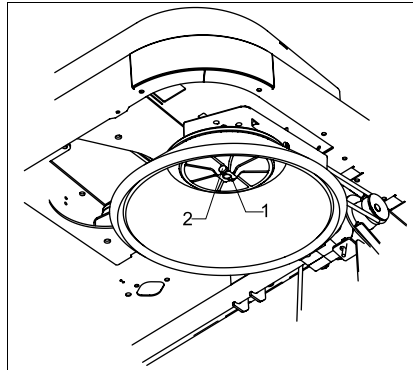

Fig. 17 Replace side brush
- Loosen hexagonal nut (Fig. 17/1) und remove together with washer
- Remove bolt (Fig. 17/2)